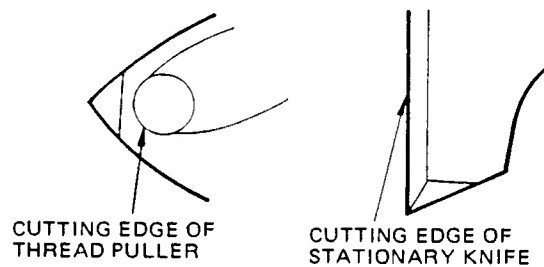

Fig 63
8. The bobbin and needle threads are severed when the cutting edge of the thread puller closes in against the cutting edge of the stationary knife. (Figs. 63 and 64)